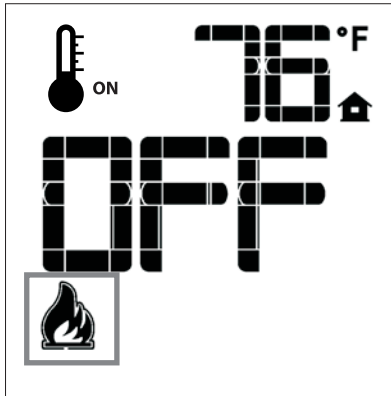

Figure 9
The Proflame GTM has six (6) flame levels. With the system on, and the flame level at the maximum in the appliance, pressing the Down Arrow Key once will reduce the flame height by one step until the flame is turned off. The Up Arrow Key will increase the flame height each time it is pressed. If the Up Arrow Key is pressed while the system is on but the flame is off, the flame will come on in the high position **Figure 9 - 12**. A single “beep” will confirm reception of the command.